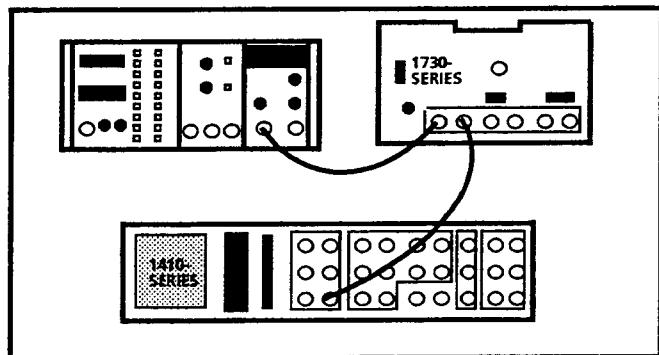

Fig. 5-16. Equipment hook-up to adjust 0.2  $\mu$ s timing using the 1410-Series sine wave output from the multiburst generator.
- b. Loop-through connect the multiburst output from the 1410-Series generator to the CH-A INPUT of the 1730-Series and the Digital Counter. See Fig. 5-16.